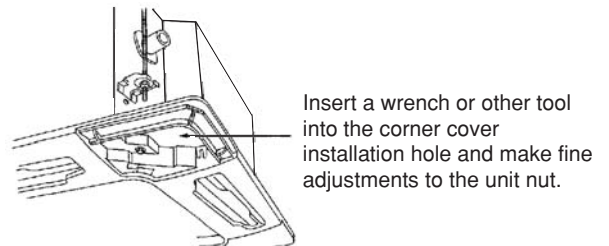

Fig. 9-10
- If there is a gap between the panel and the ceiling, leave the ceiling panel attached and make fine adjustments to the installation height of the unit to eliminate the gap with the ceiling. (Fig. 9-10)